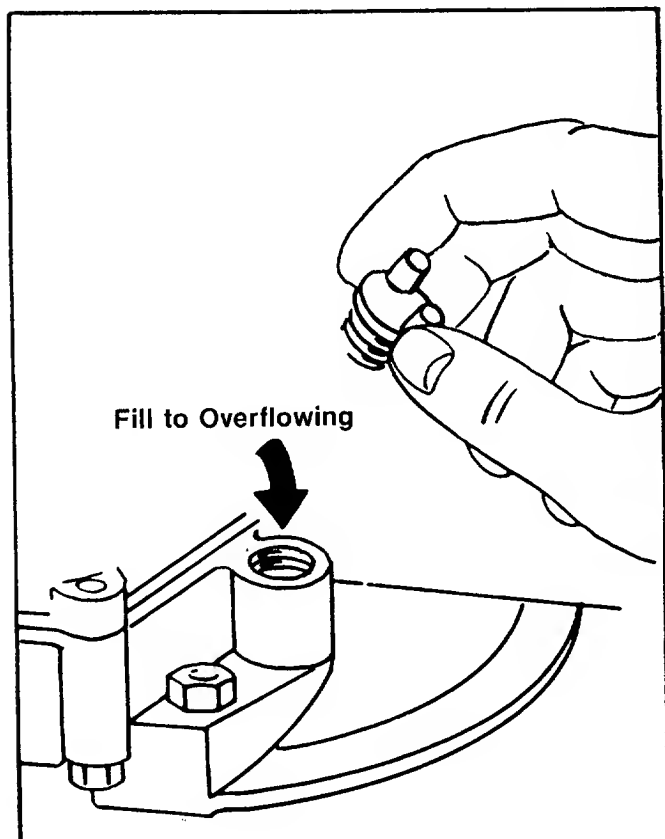

FIGURE 16. OIL FILL
Check the oil level in the crankcase before each use of the machine and after every two hours of operation. Keep the oil level to the overflowing point. See figure 16.
- Step 3. With the machine on level ground, remove the oil filler plug. See figure 16. Fill the crankcase until the oil overflows from the oil fill hole. Fill slowly to avoid air locks. The crankcase holds approximately 1¾ pints of good quality SAE 30 type MS engine oil. Replace the oil filler plug.